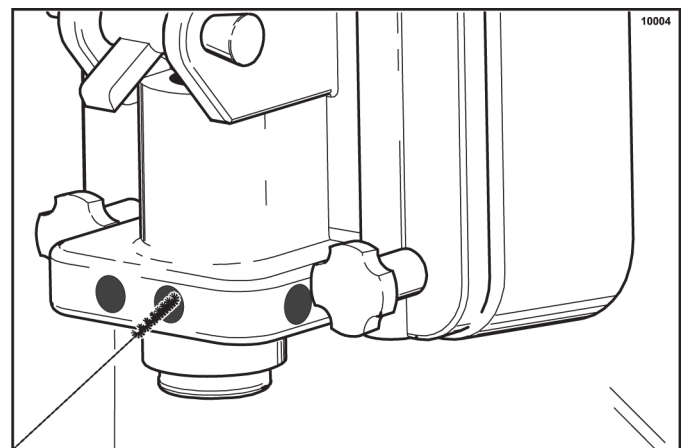

Figure 6-51
5. With the syrup-port brush, brush each syrup-port hole 10 to 15 times. Dip the brush in sanitizing solution before brushing each port. (See Figure 6-51.)